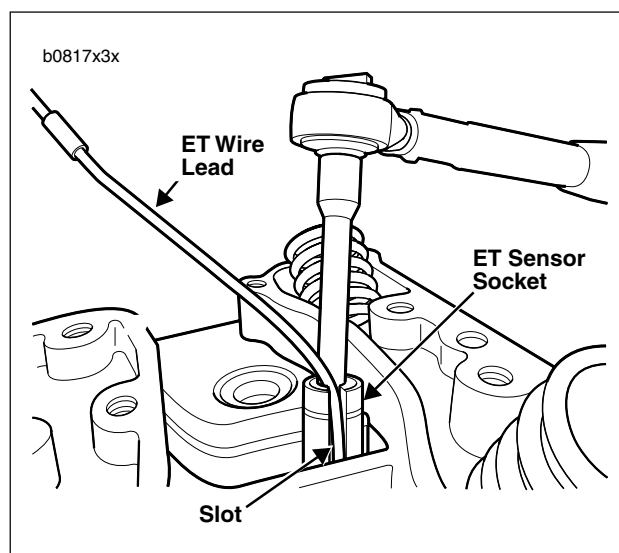

Figure 4-81. Engine Temperature Sensor Installation
3. See Figure 4-81. Remove rubber boot and sensor from rear cylinder head.
1. See Figure 4-81. Screw sensor into rear cylinder head with special ET sensor socket. Make sure wire is in cut-out portion (slot) of socket to prevent damage. Tighten ET sensor to 10-14 ft-lbs (14-19 Nm).